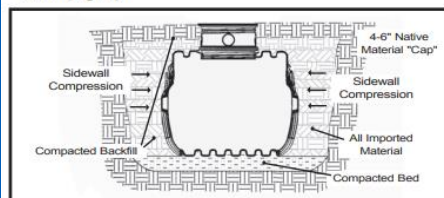

FIG.4 Backfilling
- Use a hand tamper to achieve sidewall compression through compacted backfill. Mechanical compactors may be used if available on the site. Sidewall compression is essential to provide sidewall restraint after covering the tank. (Fig. 4)